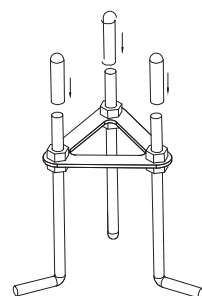

Fig2
- Prepare site. Get the anchor bolt carrier assembled as Fig2 and protect the threads from concrete splash with silicon caps.